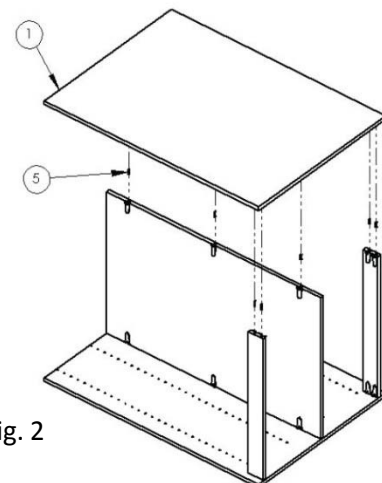

Fig. 2
4. Align Side Panel with Back Panel and Cleats. Tighten Cams (Fig 2).